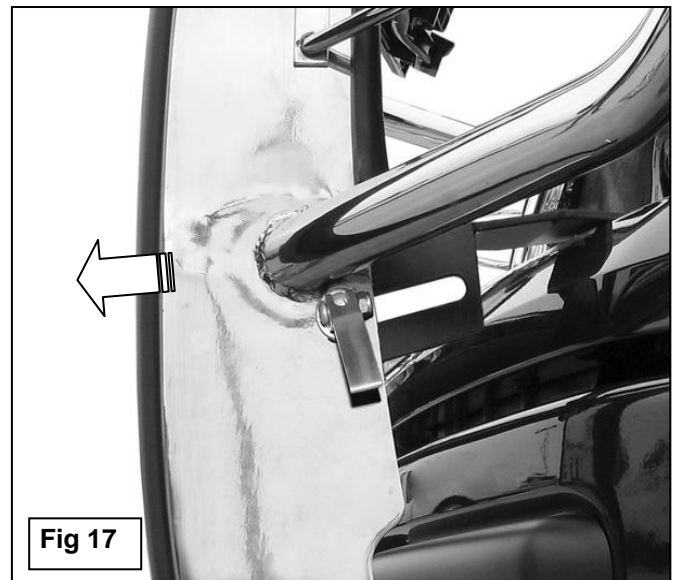

Fig 17
14. Pull the Grille Guard all the way forward, away from the vehicle, **(Figure 17)**.
1. Lift the levers on the two Quick Release Bolts to release clamping pressure, **(Figure 16)**. Try to pull the Grille Guard forward. If necessary, slightly loosen the top hex bolts on the Frame Mounting Brackets to pivot the Grille Guard away from the vehicle. Carefully pull on the Grille Guard until it is fully extended away from the vehicle, **(Figure 17)**. **WARNING!** Do not loosen the bolts all the way. Damage to the truck or Grille Guard may occur. Only loosen the bolts enough to move the Grille Guard.